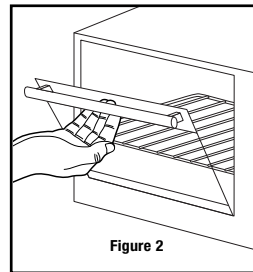

Figure 2
Step 2: Pull down the oven door carefully (see Figure 2).